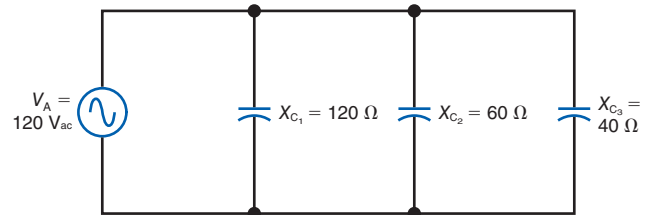

Figure 16-13
- 16.21** In Fig. 16-13, solve for C_1 , C_2 , C_3 , and C_T if the frequency of the applied voltage is 6.366 kHz.